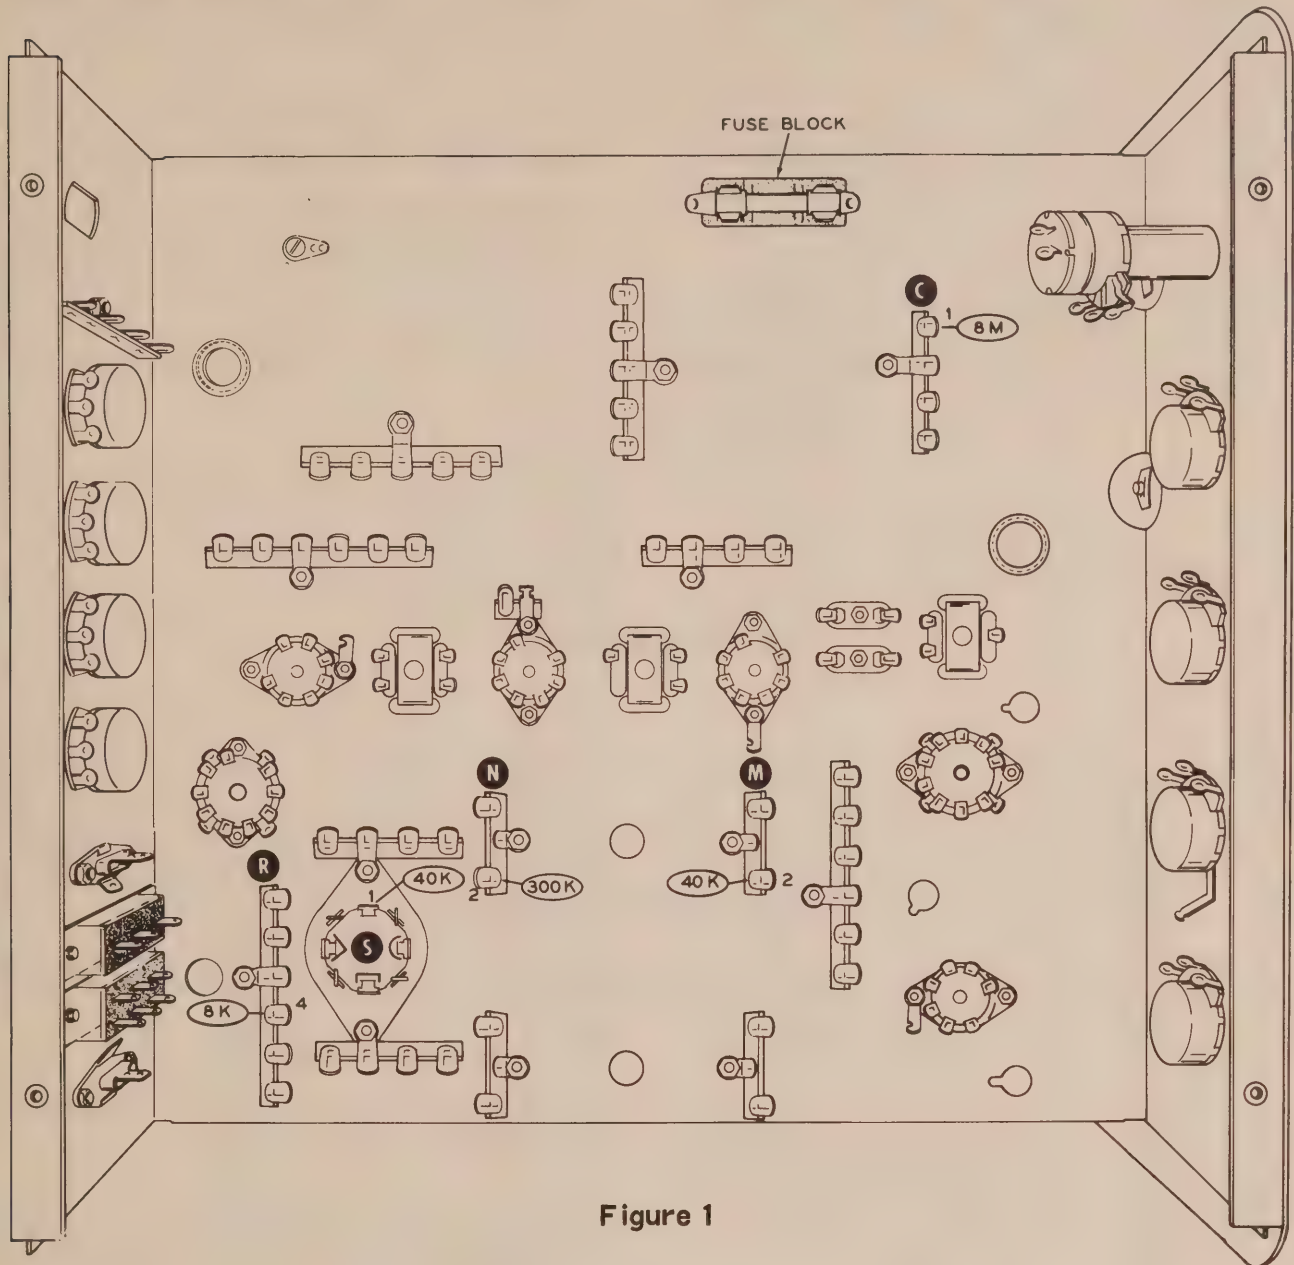

Figure 1
Figure 1 enables you to identify the test points and shows the resistance to be expected at each. Due to component and meter tolerances, readings can vary up to 20%.
- ( ) Install a 1/2 ampere slow-blow fuse in its holder as shown in Figure 1.